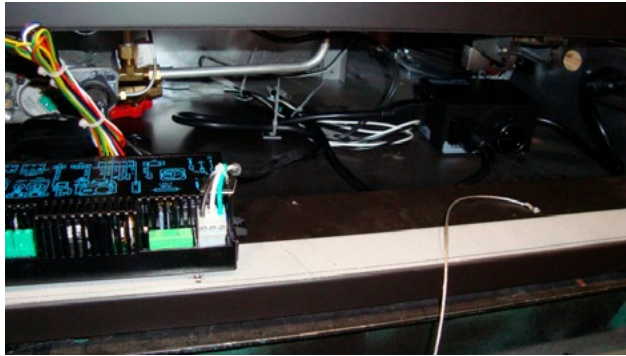

Figure 12
9. Plug in the power cord from the fireplace to the Dual Receptacle box "120 Volt Out" Plug (labeled). See "Figure 12 Fireplace power cord Proflame 2 System" on page 3.